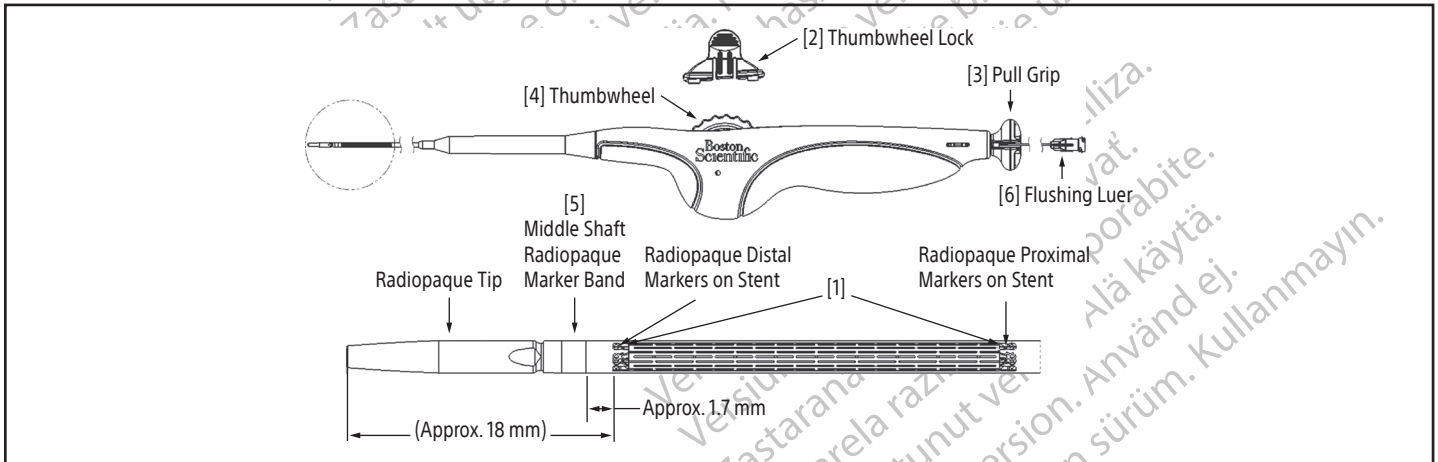

Figure 1. Stent Delivery System
8. Remove the flushing luer [6] (by pulling the syringe or by pulling flushing luer [6]) (Reference **Figure 1**).
Stent Deployment Procedure (Reference Figure 1)